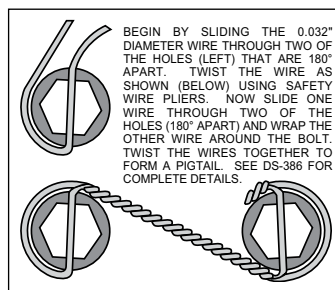

Figure 4. Safety Wire Diagram
•The hat/rotor assembly (7) has been pre-assembled at the factory using red *Loctite*® 271 on the mounting bolts and torqued to specification. For an added measure of security, the bolts may be safety wired using standard 0.032 inch diameter stainless steel safety wire as shown in Figure 4. Please refer to Wilwood's data sheet DS-386 (available at www.wilwood.com/Pdf/DataSheets/ds386.pdf) for complete safety wire installation instructions.